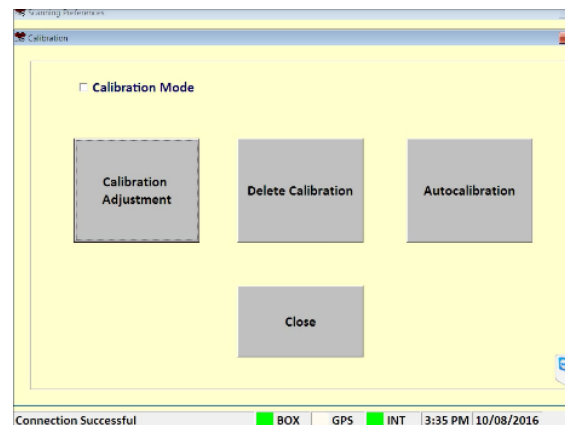

Figure 5-19. Calibration Menu
- Press **Auto-Calibration** button and Select the Crop Type to validate. Figure 5-19.
- Enter the reference values for each sample. Press the green box to enter corresponding value. Figure 5-19.